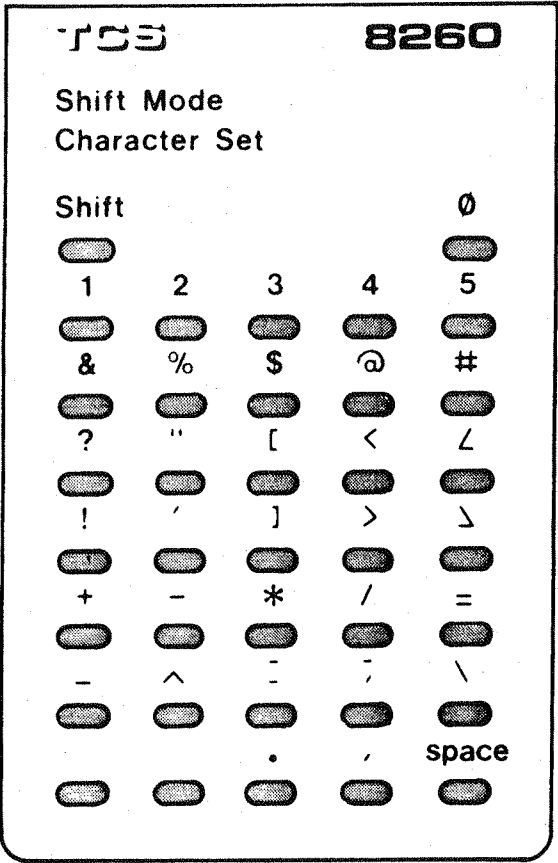

FIG 4.2) SHIFT MODE CHARACTER SET
- 2) It is often required to programme non alphanumeric characters like spaces or asterisks within a tag field. The 8260 keyboard layout of Fig. 4.1 shows that these are not normally available. However, if the SHIFT key is pressed an additional set of shift mode characters are available as illustrated by the keyboard overlay shown in Fig. 4.2. Additional information on the shift mode is given in Section 2.4 of the System 6000 Communications Handbook.